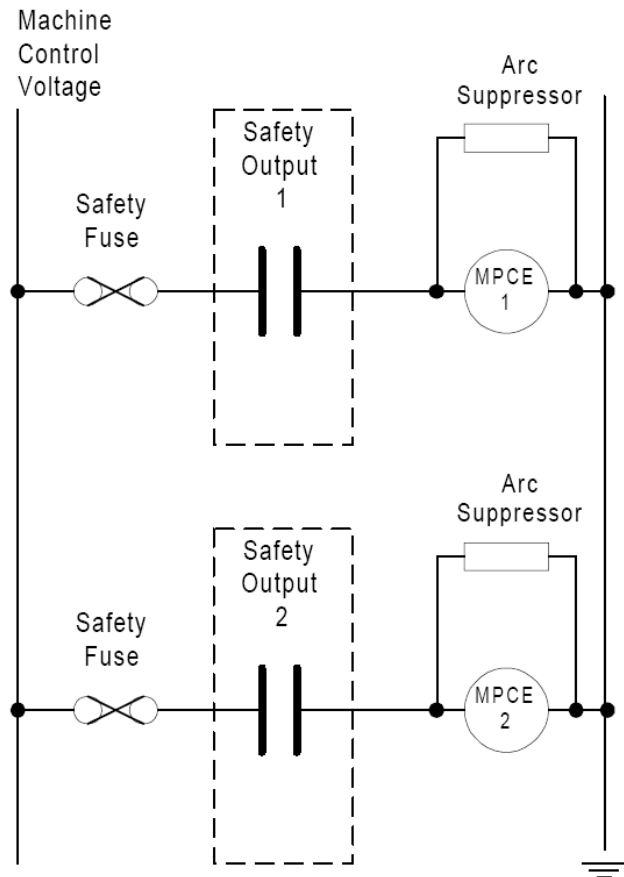

Figure 2 - Interfacing a Machine with Dual Identical MPCE's
• **High Risk Machines** - These should have 2 MPCE's. In some countries, it is customary for both MPCE's to operate in the same mode. In this case, each of the normally-open (NO) outputs controls a single MPCE. See Figure 2 for an illustration of this type of interface. Any additional output contacts can be used as a monitor, e.g., as an input to a PLC.